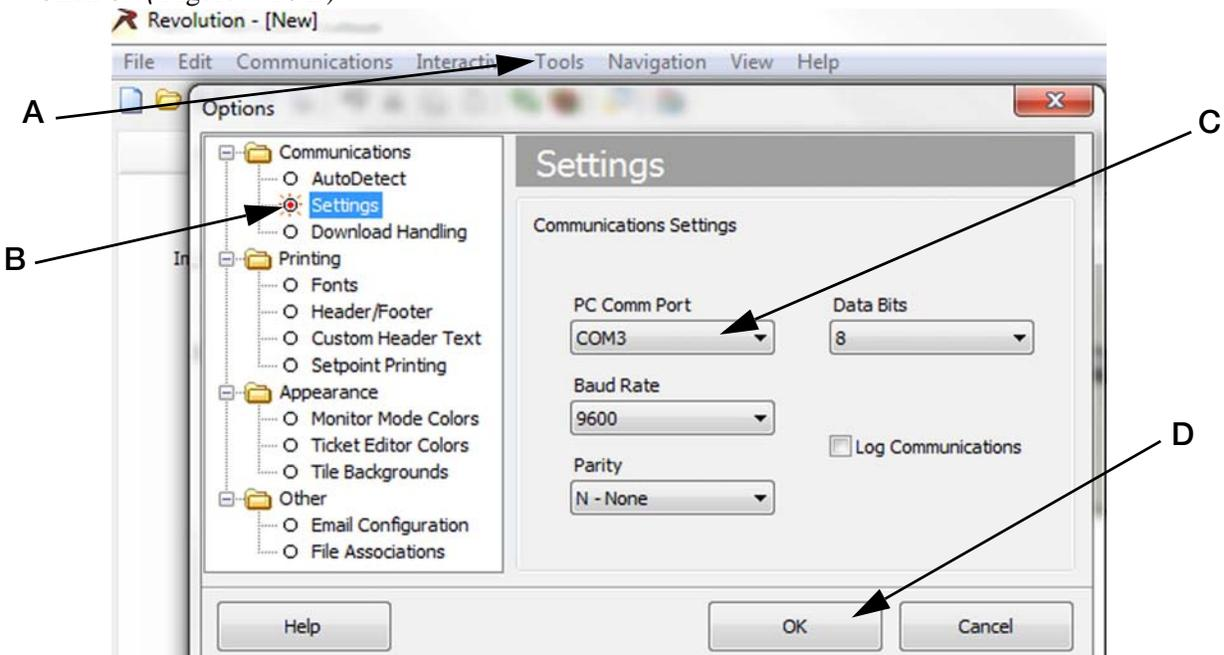

Figure 4-16. Options Screen to Select Comm Port for USB
8. Go to Tools/Options (Figure 4-16 A) and select **Settings** (B). Then choose the **PC Comm Port** (C) that will be used to connect the USB cable. (See Note above)
9. Click **OK** (Figure 4-16 D).